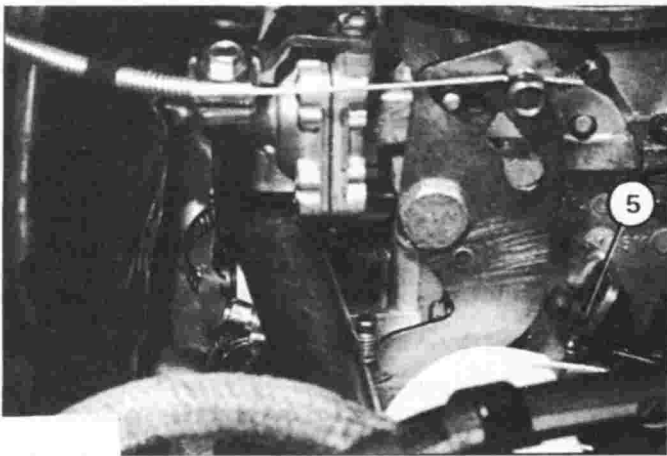

Fig. 17.10 Fast idle adjustment (Sec 4)
15 Adjust as necessary by turning the fast idle adjustment screw (5) in Fig. 17.10 in the appropriate direction.